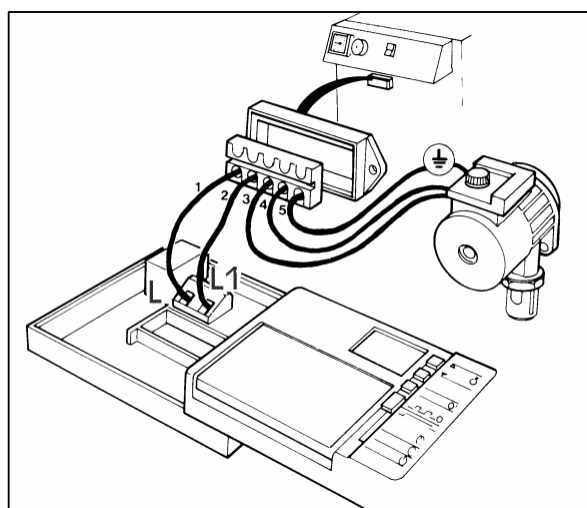
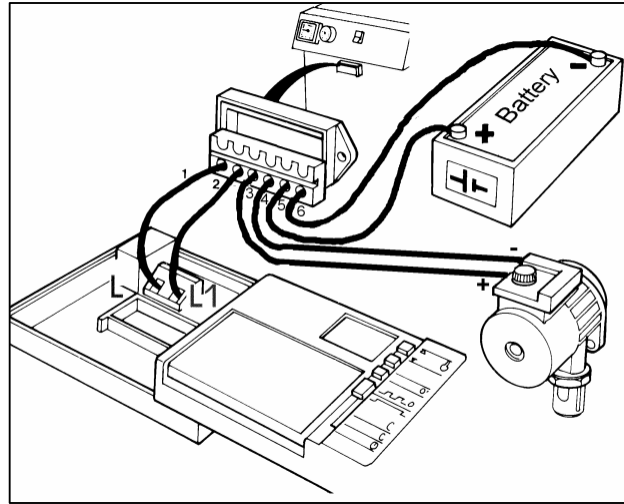

Figure 5
Figure 6
**Connecting the room thermostat** (see figure 5 and electrical scheme in appendix C)
**Connecting the circulation pump** (see figure 5 and electrical scheme in appendix C)
**Warning:** Never change the + pole with – pole on the battery (See figure 6).
1. The connection of the room thermostat is identical to the connection for the 230 Volts version. Use figure 6 instead of figure 5.